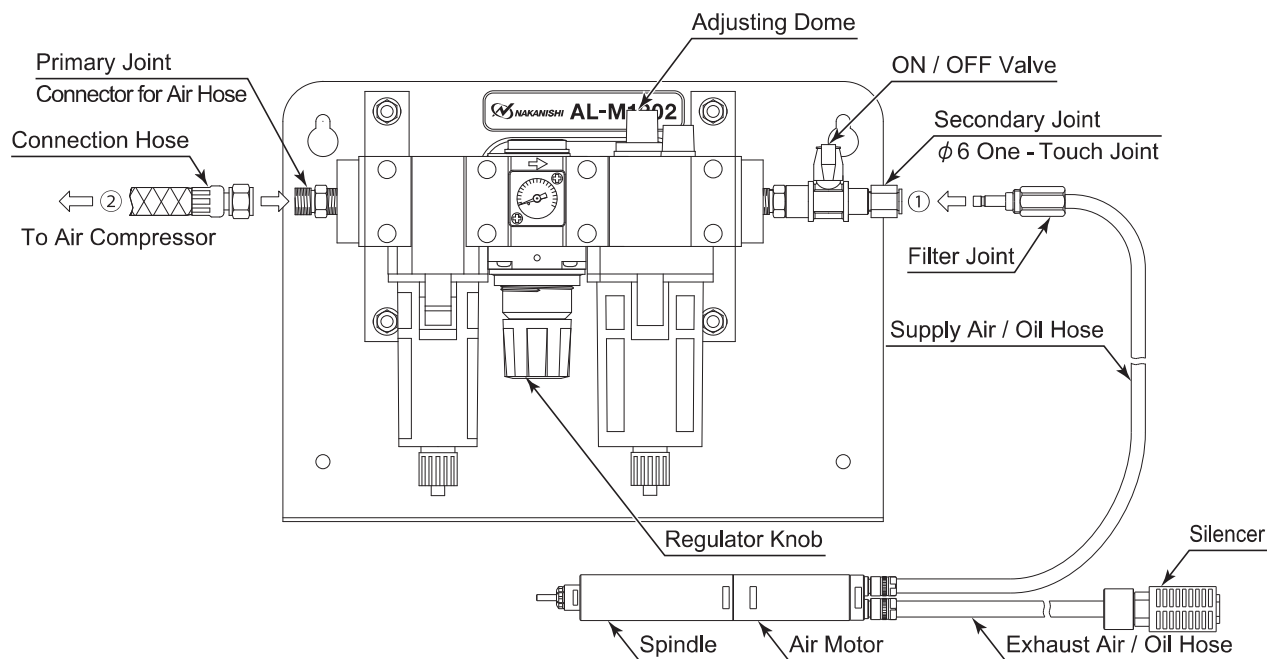

Fig. 7 Connection of Air Line Kit " AL - M1202 (Sold Separately) "
- ① Connect the Filter Joint of the supply air / oil hose to the Secondary Joint ($\phi 6$ One - Touch Joint) of the Air Line Kit (Fig. 7 ①).
- ② Fill Oil Reservoir through the Oil Filler Cap with recommended NAKANISHI Lubricating Oil (K-211 : Air Line Kit's Standard Accessories) to Upper Limit. Disconnect from air supply prior to opening Oil Filler Cap. Do not over or under fill.
- ③ Connect the connection hose (Air Line Kit's Standard Accessories) to the Primary Joint of the Air Line Kit and Compressor (Fig. 7 ②).
- ④ Supply air from the air compressor and turn the Regulator Knob to set air pressure between 0.3 - 0.5 Mpa (43.5 - 72.5psi).
- ⑤ Turn the ON / OFF Valve and rotate the Air Motor with recommended proper air pressure. Adjust the Oil Drip Rate to the recommended volume which is 1 to 3 drops / min.)(Commercially Air Line Kit is same Oil Drip Rate).
- ⑥ Be sure to adjusted to proper Oil Drip Rate before using the Air Motor.